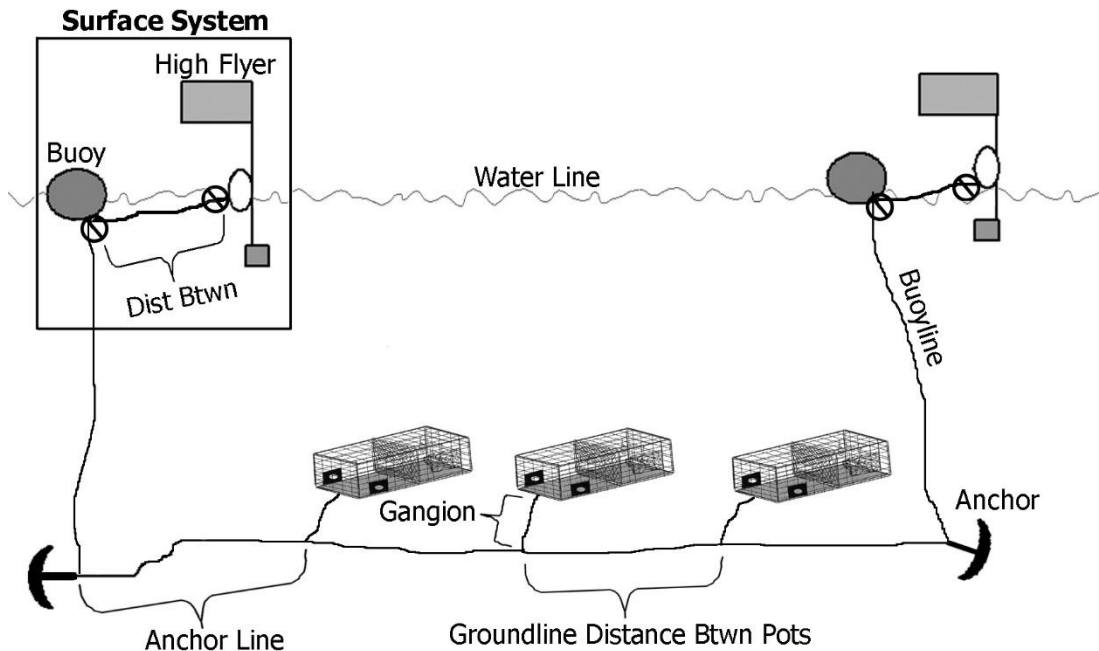

Figure 10. Typical pot/trap trawl gear configuration.
*Lobster, Crab, or Fish Pot Trawl:* A series of traps attached to a groundline (“the trawl or string”, see FIGURE 10). Each trap contains a ballast, to ensure minimal movement on the ocean floor. The traps are generally baited and configured to allow entry, but not exit, of the desired size of the targeted species. Traps are configured to allow entry of target species and exit of undersized target species and non-desired species.
Across fisheries, traps may be fished singly or in trawls of traps, ranging from 2-200 per trawl. Single traps are fished using a single buoy or high flyer (sometimes both) attached to a buoyline (see FIGURE 10). Buoylines are typically made up of a combination of sinking/neutrally buoyant and floating line, and are usually attached directly to the trap when fishing single traps. Trawls of traps are fished using buoys and/or high flyers. Some captains prefer to use only buoys, others only high flyers. Captains will often use a high flyer and a buoy on one,